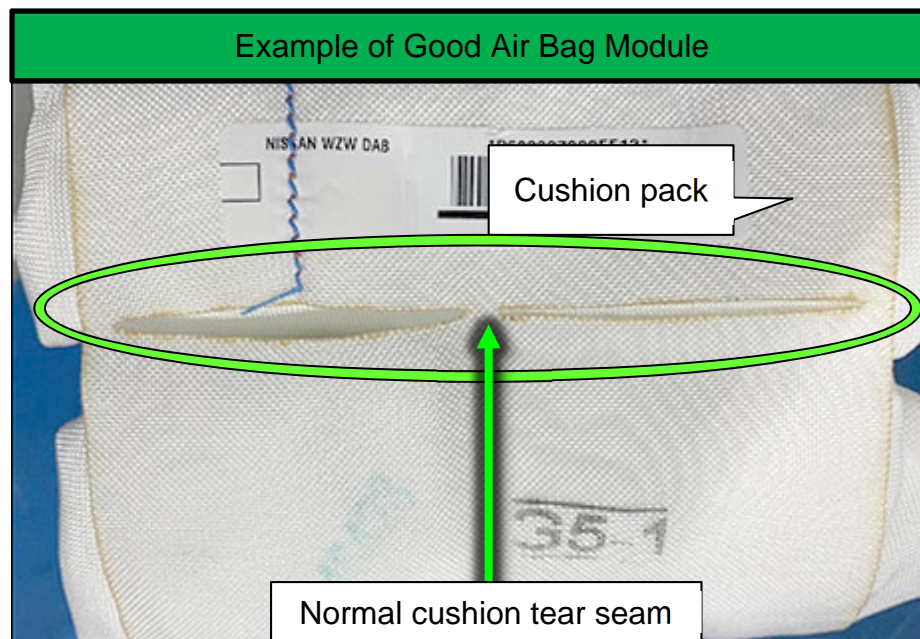

Figure 18
- One or more of the cushion tear seams (Figure 18) is damaged or separated.